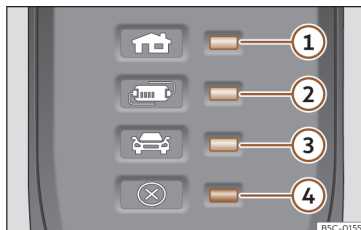

Fig. 68 On the charging cable for power sockets: Control lamps on the protection device.
>>> **Fig. 68:**
The electronic protection device >>> **Fig. 68** ensures that the charging connector does not receive current until it is plugged in to the vehicle's charging connector.
One or more control lamps >>> **Fig. 68** ①, ②
Display >>> Fig. 68	Meaning
①, ④ flashing	The housing connector has overheated.
②, ④ flashing	The protection device has overheated.
If the charging process continues with a lower current, both the operating indicator and the warning lamp >>> Fig. 68 ④ flash red.
- If it disconnects again, or the charging current reduces and the cause does not seem to be exposure to an external heat source, make sure that the green control lamp is flashing >>> Fig. 68. Visit a specialised CUPRA dealer or any SEAT network dealer to check the charging cable. Get an establishment that specialises in electrical installations to check the infrastructure connection.
If the red warning light ④ flashes or turns on without one of the control lamps >>> Fig. 68 ①, ② or ③ also turning on continuously on the status indicator, there is a fault.